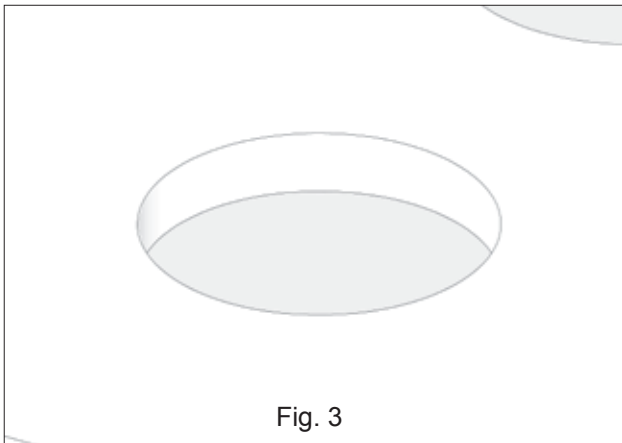
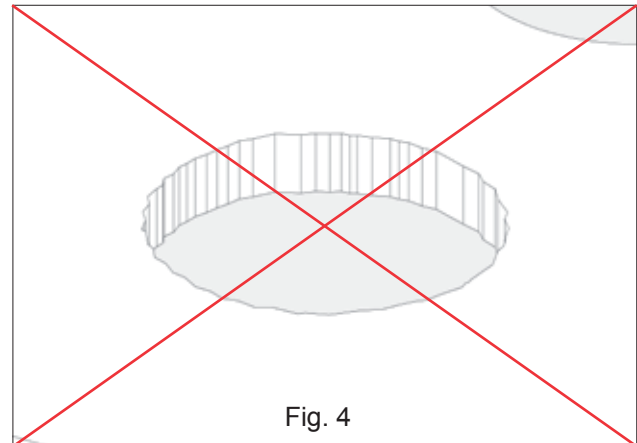

Fig. 3
Fig. 4
- 2b. The insides of the recess(es) should be smooth and even (**fig. 3**). Irregularities can cause cracking (**fig. 4**).